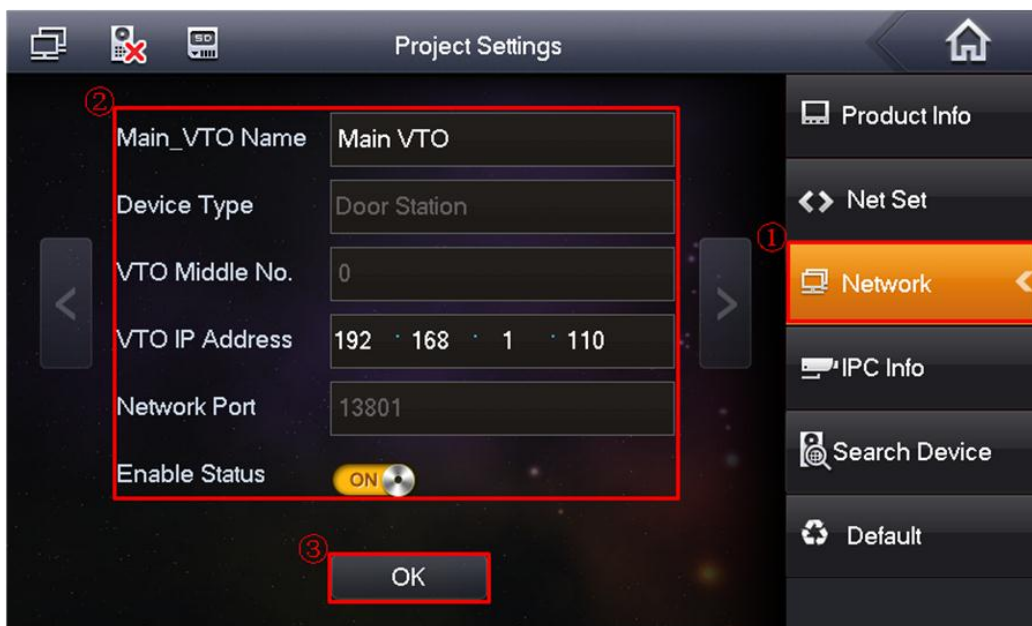

Figure 2-12
**Note:** Click  to go to the extension VTO interface; you can set extension VTO information. You can several extension VTOs at the same time. See Figure 2-12.